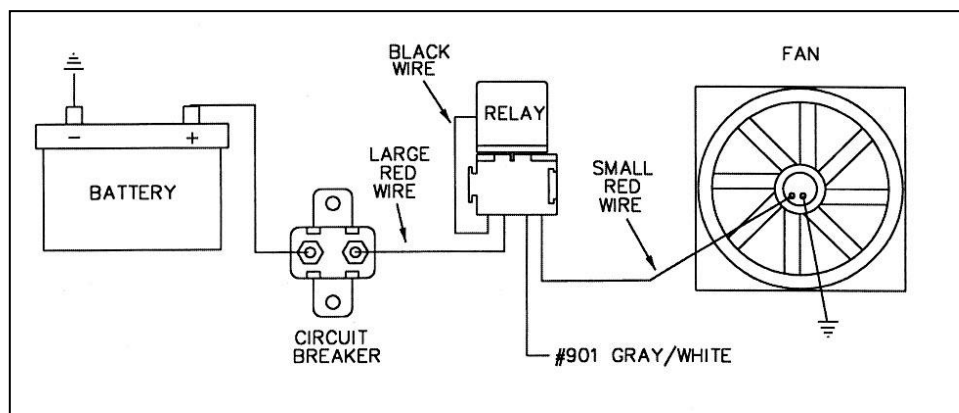

Figure 13-2 Typical Fan Relay Installation (Painless Part #30101)
13.0.4 Connect HEADLIGHT SECTION A wire #901 (gry/wht) to the Electric Fan Relay. This wire is an activation wire for the relay, **NOT A POWER FEED**. The other end of wire #901 is in the ACCESSORY SECTION SWITCHES and should be connected to the electric fan switch in the dash. Connect 906 (gry/wht) from ACCESSORY SECTION B+ to the other side of the fan switch. **Figure 14-2** shows a typical fan relay installation. *Note: The wire going to the fan in Figure 13-2 will be coming from the fan relay output terminal. Wire #901 (gry/wht) from the ACCESSORY SECTION SWITCHES is an activation wire for the fan relay.*